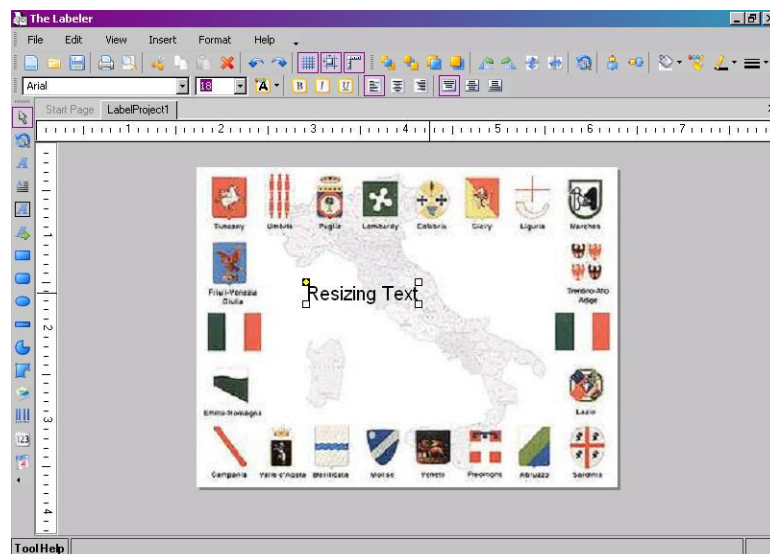

Figure 4.1.2.3: Text has been resized.
- 2.1. Move the cursor over one of the white square boxes on any corner of the selected text (see Figure 4.1.2.4).